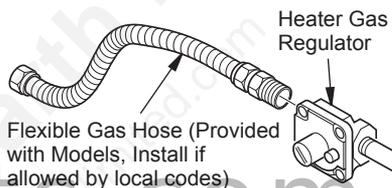

Figure 10 - Attaching Flexible Gas Hose to Heater Gas Regulator
1. Apply pipe joint sealant lightly to male threads of the 3/8 NPT side of gas fitting elbow (provided) and connect to inlet side of gas control. Remove gas fitting from flexible gas hose (provided) before connecting to elbow (see Figure 10).